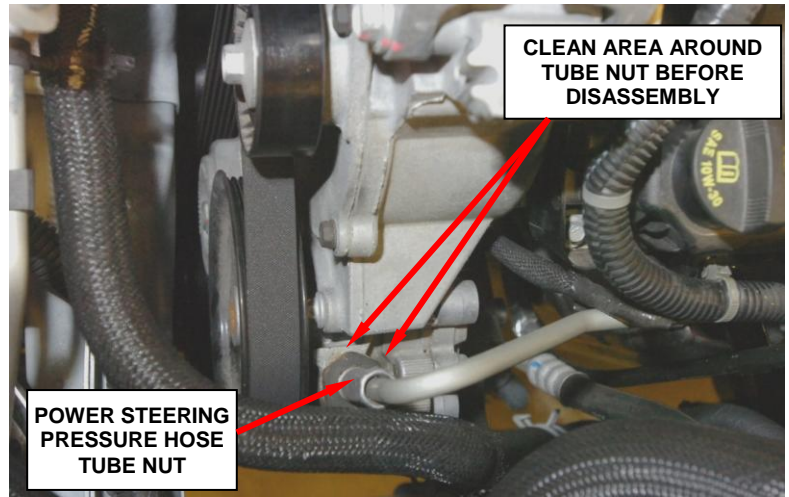

Figure 11 – Tube Nut at Pump
8. Using Mopar Brake Parts Cleaner (or equivalent) and compressed air, clean the area around the power steering pump where the tube nut screws into the power steering pump (Figure 11).
9. Unscrew the tube nut at the power steering pump and then remove the power steering pressure hose from the power steering pump (Figure 11).